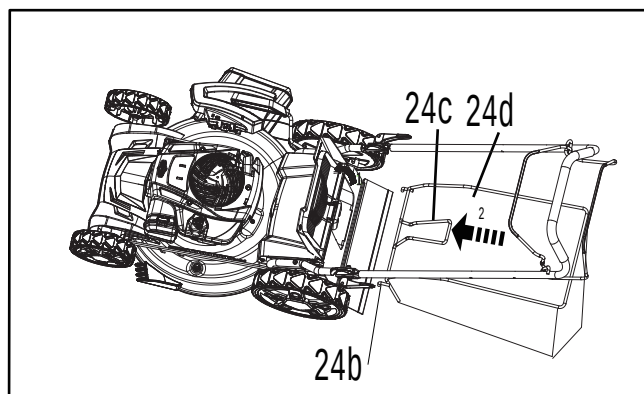

Fig5
3. Open the rear deflector guard (23) and hold it in position (Fig. 5, step 1).
5. Align the hooks (24b) with the slots and hang the grass bag onto it (Fig. 5, step 2)
6. Carefully release the rear deflector guard (23) afterwards.